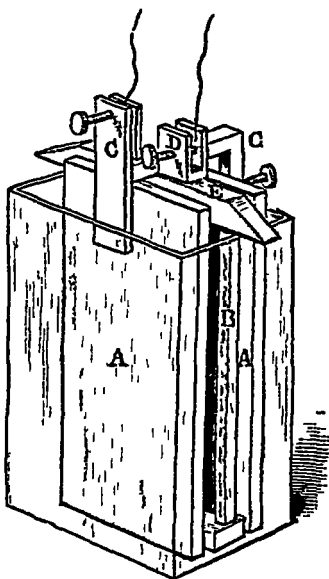

FIG 201
**The Smee cell**—A thin plate of silver or platinum is covered with finely divided platinum, and is fixed in a framework, B (fig 201), supported by a crosspiece, E, a piece of copper wire is attached to the plate by a binding-screw, D. The zinc plates, A